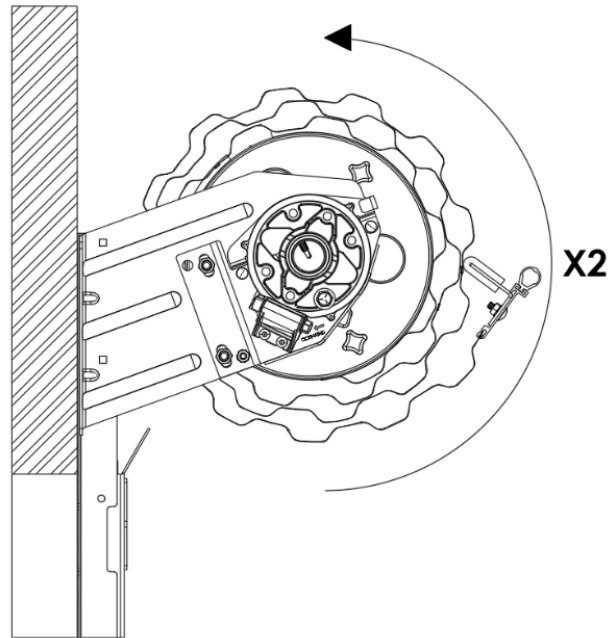

figure 8: Setting initial spring tension
- ✦ Rotate door two (2) revolutions in the direction that would send the bottom bar down through the guides. See Figure 8.